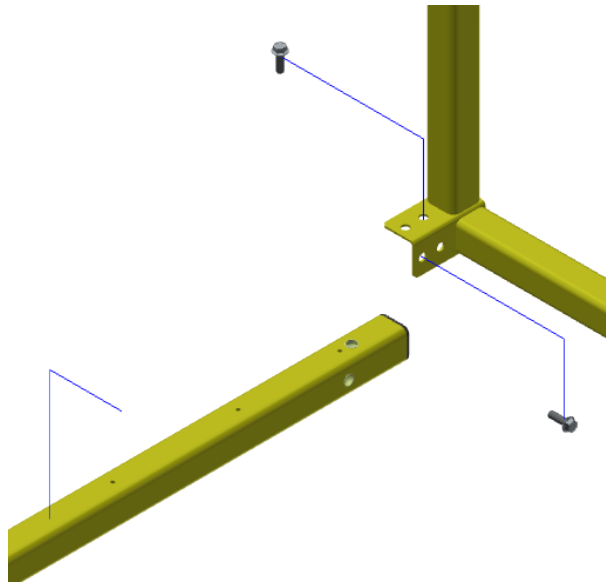

Figure 10: Machine Guard Side Frame Securing
- Position Machine Guard Side Frame (p/n \_ \_-231) on the mounting tubes and secure to Machine Guard Corner Mounting Tube Assembly (p/n \_ \_-244) with provided 1/4-20 hardware as represented below (Figure 10).